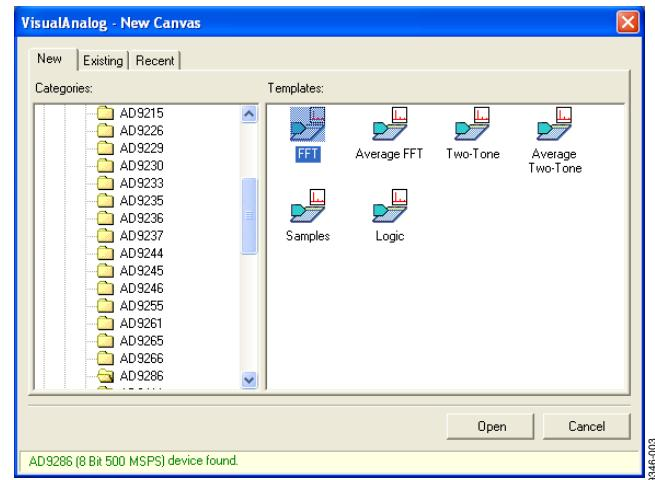

Figure 3. VisualAnalog, New Canvas Window
1. Open VisualAnalog on the connected PC. The appropriate part type should be listed in the status bar of the VisualAnalog – New Canvas window. Select the template that corresponds to the type of testing to be performed (see Figure 3).